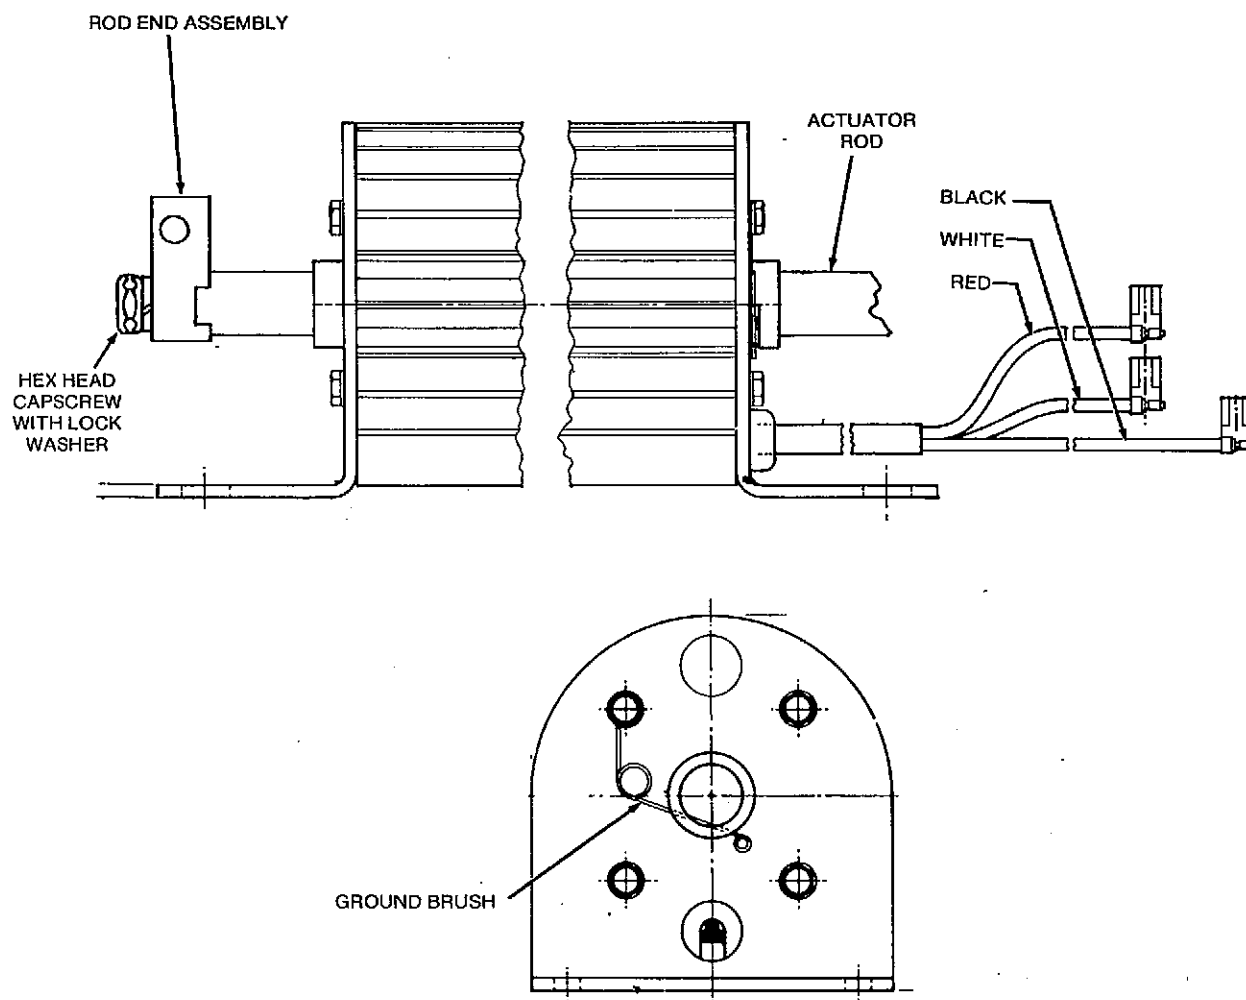

FIGURE 26. LINEAR ACTUATOR
9. Remove rod end assembly (see Figure 26) and slide actuator rod out of the actuator motor.
1. Insert the actuator rod into the replacement actuator motor (see Figure 26). Hold the actuator ground brush up slightly to allow passage of the actuator rod. Install the rod end assembly and tighten capscrew to 10 to 12 ft-lbs (13.6 to 16.3 N•m).
3. Secure the actuator motor to the switch assemblies using hex head capscrews (4), lock washers (4), flat washers (4), barriers (2), and spacers (4). Tighten capscrews to 70 to 75 in-lbs (7.9 - 8.5 N•m).